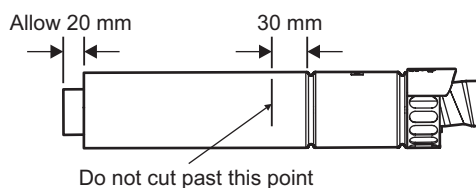

**Fig. 4.9 - Rear flue**
**Note:** Check the flue terminal protrudes 120 mm out of the wall and the inner duct of the terminal is positioned correctly (see Fig. 4.9).